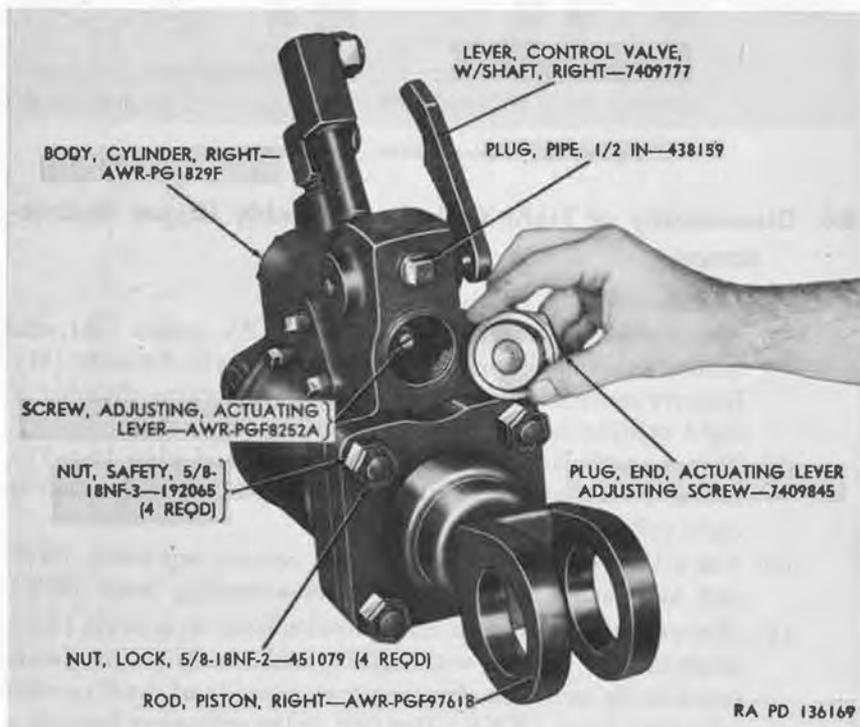
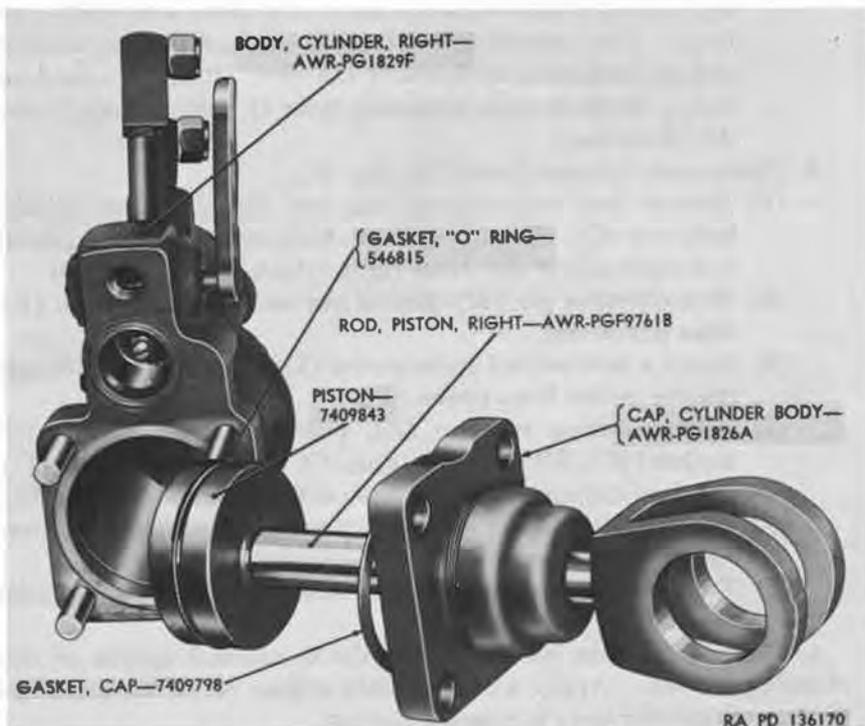

Figure 17. Removing actuating lever adjusting screw end plug.
Figure 18. Piston and rod removed from right cylinder body.
- (2) Remove actuating lever adjusting screw end plug (fig. 17), gasket (GG), and pipe plug (HH) from valve chamber in right cylinder body.
- (3) Use a thin wall socket wrench and remove cap screw (NN) and lockwasher (MM) from valve actuating lever (KK).
- (4) Before removal of right control valve lever with shaft (LL), shaft must be marked with right cylinder body (M) to facilitate aligning serrations for proper reassembly of shaft to valve actuating lever (KK). Position valve actuating lever in a vertical position and mark shaft with body. Tap shaft with
- (1) Remove four lock nuts and hex nuts (fig. 17) from cylinder body cap (C). Remove cylinder body cap, cap gasket, piston, and right piston rod from right cylinder body (fig. 18).
- (2) Remove cotter pin (H), slotted hex nut (G), and piston (F), from piston rod.
- (3) Insert a tapered tool under piston O ring gasket (fig. 18) and remove gasket from piston (F).